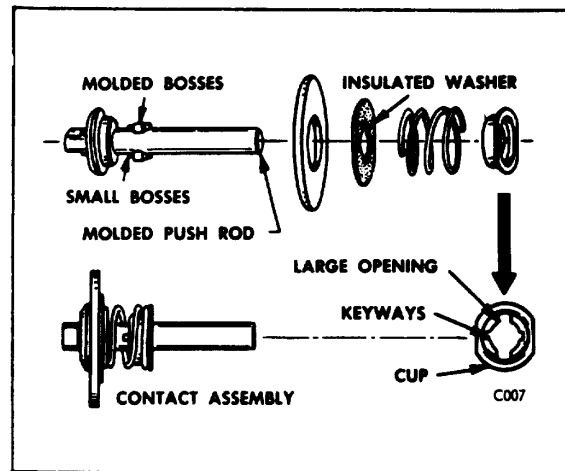

Figure 35.
7. Remove the solenoid return spring and plunger. Remove the terminal assembly and the contact assembly. To disassemble the contact assembly, push in on the metal cup and rotate 1/4 turn. (Fig. 35) Slide the metal cup, spring, and washers off the push rod.